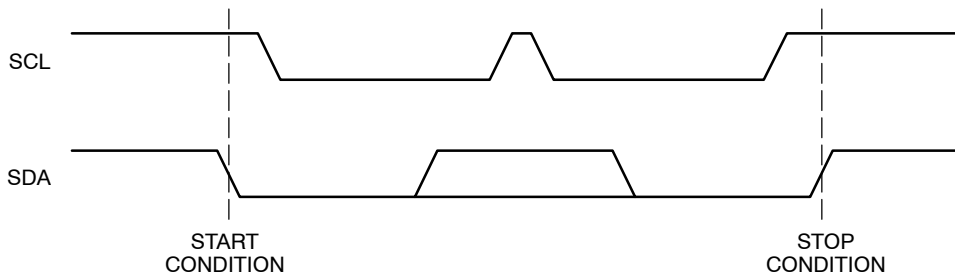

Figure 9. START/STOP Condition
2. During a data transfer, the data line must remain stable whenever the clock line is high. Any changes in the data line while the clock line is high will be interpreted as a START or STOP condition (Figure 9).
After a successful data transfer, each receiving device is required to generate an acknowledge. The acknowledging device pulls down the SDA line during the ninth clock cycle, signaling that it received the 8 bits of data. The SDA line remains stable LOW during the HIGH period of the acknowledge related clock pulse (Figure 9).